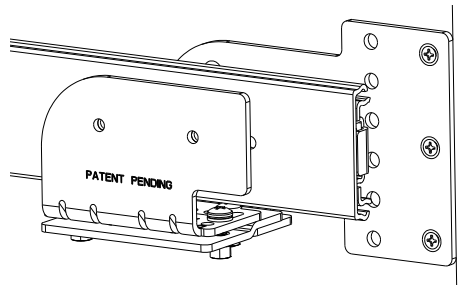

FIGURE 7.2
**32mm system holes:** If the system holes are available, attach the side mounting bracket to the inside of the cabinet using the (6) M6.3 x 14mm Euro screws into the 32mm system holes. The side mounting brackets should still be flush with the edge of the cabinet (See Figure 7.2).